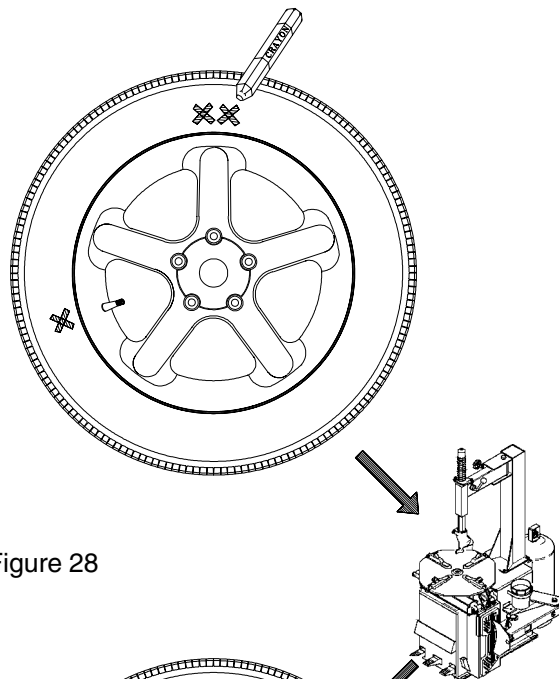

Figure 28
Due to a large amount of remaining imbalance the operator can continue match mount. Machine displays "CrS" "r" and "tur" "tir" alternatively. This instructs the operator to turn the wheel and make a double cross mark (XX) on the right side of the tire at 12 o'clock position when the right center position LED turns to green. See Figure 28.